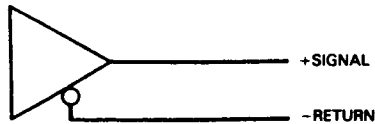

**Figure 6-3. RS422 Half/Full Duplex Without Handshake**
**6.5 RS422 INTERFACE (See Figures 6-3 and 6-4)**